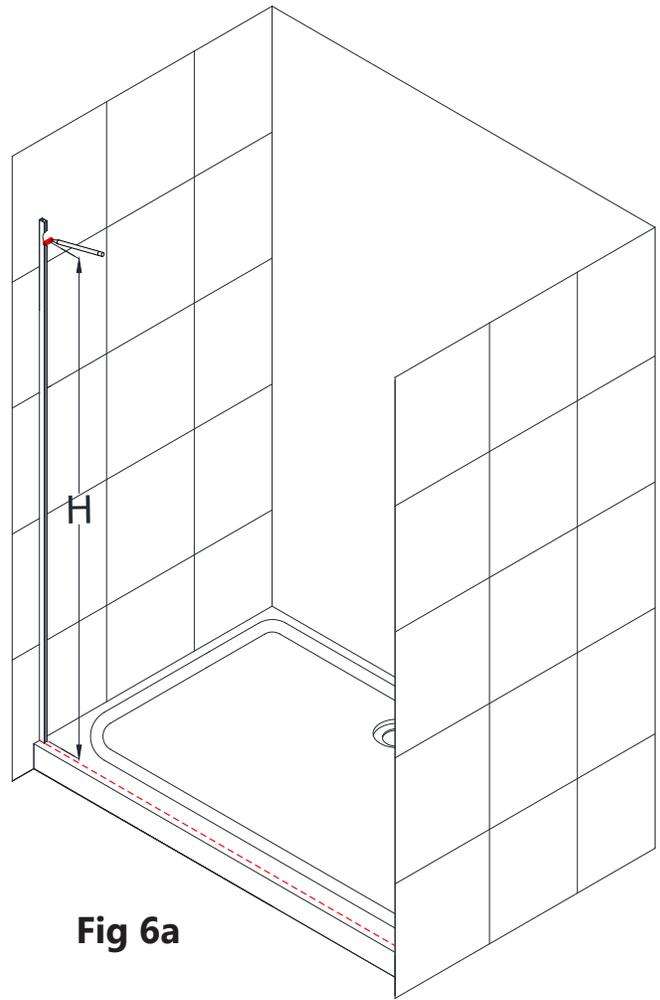
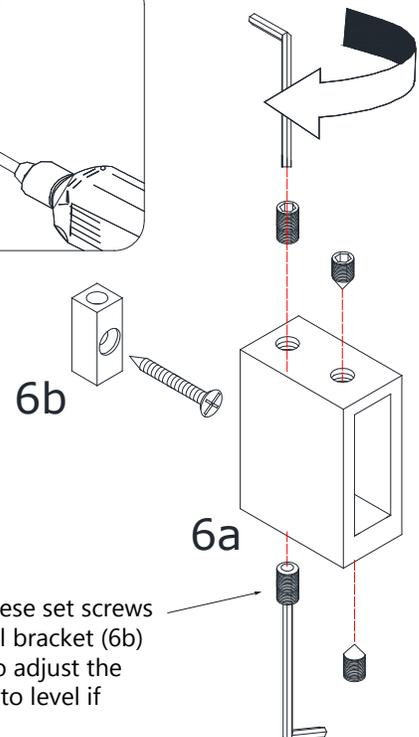

Fig 6a
**Fig 8**
**6.** To position the **Guide Rail Brackets (#06)**: From the inside of the shower, measure up from the threshold to the mark the bottom of the **Guide Rail Bracket (#06)** using **Table 1** below. While holding the bracket against the edge of the installed **U-Channel (#01)**, mark the wall at the bottom of the bracket to the correct installation height. (**Fig 6a and Fig 6b**)
**8.** Drill either a  $\text{Ø}5/16''$  hole and insert a **Wall Anchor (#16)**, (OR when installing to a stud, drill a  $\text{Ø}1/4''$  hole up to the wood and do not use an anchor.) **\*See notes below.** Separate the **Guide Rail Bracket (#06)** components (**Fig 6a** and **Fig 6b**). Install the **Guide Rail Wall Bracket (#06b)** to the wall using one **ST4.2 x 55mm Countersunk Screw (#21)**. (**Fig 8**)
**19.** Remove the **Guide Rail (#04)** from the **Stationary Panel Glass (#02)**. Remove the **Guide Rail Bracket (#06)** from the **Guide Rail (#04)** and hold it back in position on the wall and mark the anchor hole. Drill either a  $\text{Ø}5/16''$  hole and insert a **Wall Anchor (#16)**, OR when installing to a stud, drill a  $\text{Ø}1/4''$  hole up to the wood and do not use an anchor. **\*See notes below.** Separate the **Guide Rail Bracket (#06)** components (**Fig 6a and Fig 6b**). Attach the **Guide Rail Wall Bracket (#06b)** to the wall using one **ST4.2 x 55mm Countersunk Screw (#21)**. (**Fig 19**)